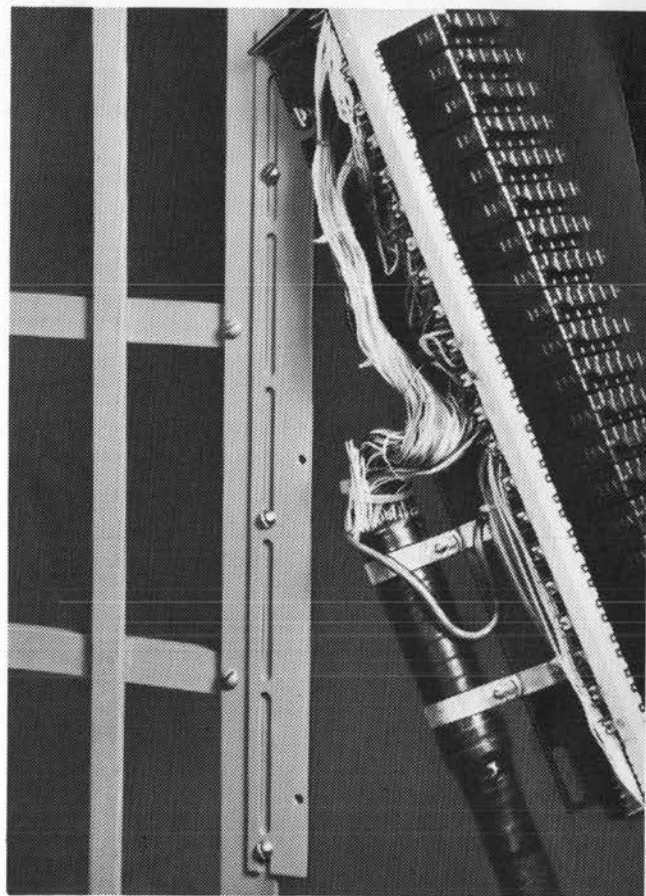

Figure 26
- 10.02 Provides compatible mounting for the C-303 Connector on any manufacturer's frame. Adapter attaches to C-303 Connector mounting bar. (See figure 26.) Mounting screws are not included.